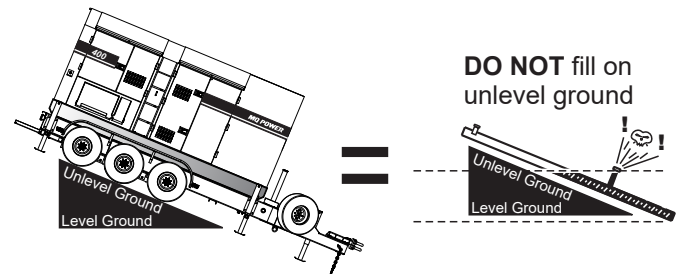

Figure 38. Only Fill On Level Ground
1. **Level Tanks** — Make sure fuel cells are level with the ground. Failure to do so will cause fuel to spill from the tank before reaching full capacity (Figure 38).